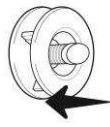

Figure 8
- To deflate the AirBeam (remove the cap (figure 7)) press & turn (figure 8) the button from CLOSED to OPEN